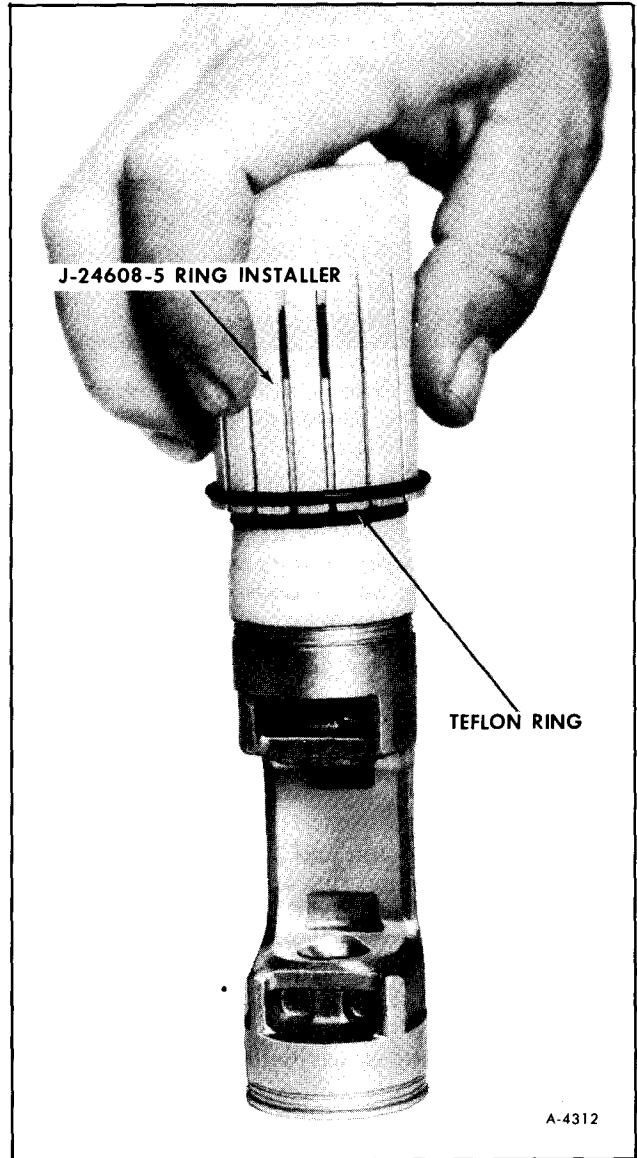

Figure 86—Installing Teflon Piston Ring
5. Push the Ring Installer J-24608-5 down over the Installer Guide J-24608-2 to install the Teflon ring in the piston ring groove (figure 86). If the Teflon ring is slightly off position in the ring groove, it can be positioned into place by fingernail or blunted-edged tool that will not damage the piston.